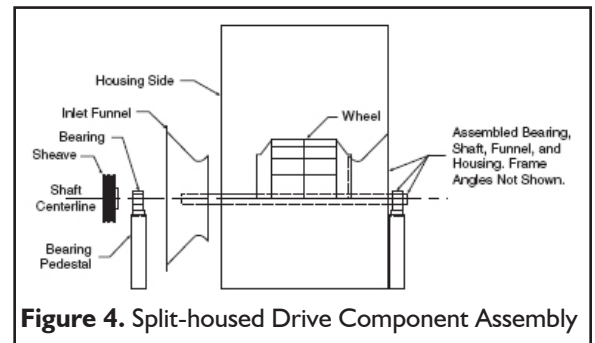

Figure 4. Split-housed Drive Component Assembly
7. Arrangement 3 (Split-housed) units (See Figure 4):